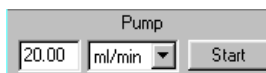

Figure 5-10 Pump Section of Control Panel
1. Type a **flow rate** in the text box in the Pump section of the Control Panel (Figure 5-10). The flow rate range is 0.2 to 100.0 ml/min.